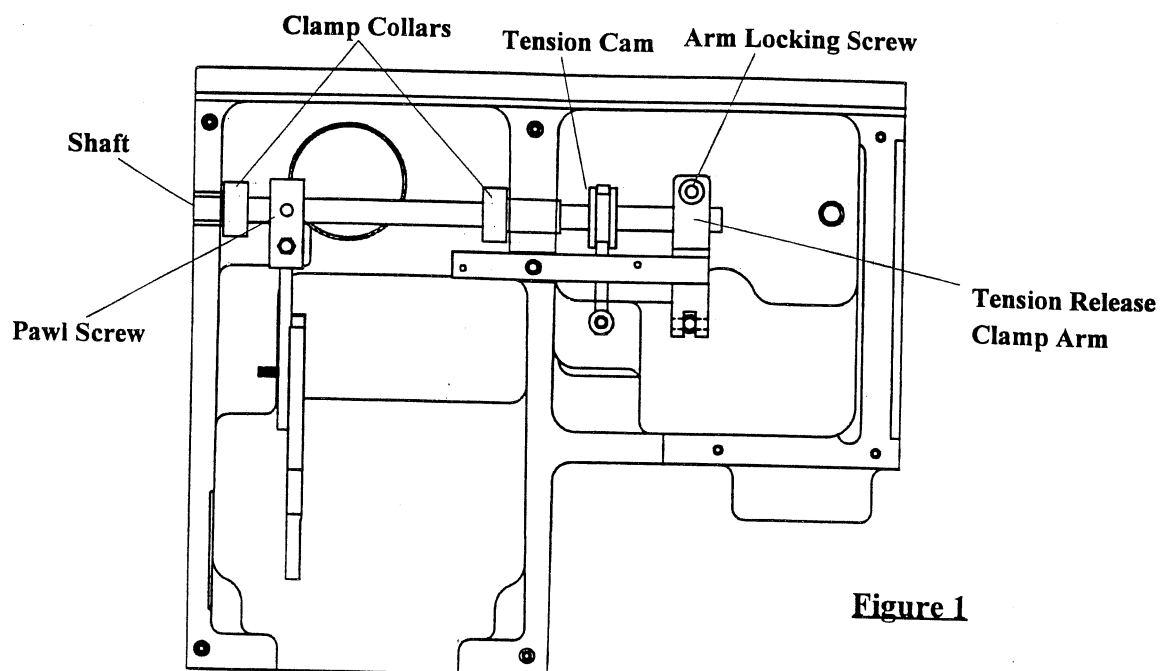

Figure 1
Check the thread draw-off actuator shaft, the shaft must rotate freely without end play and the outer end of the shaft is flush with the outside of the head casting (Figure 1).
1. *Loosen* the clamp collar set screws and the arm locking screw, *adjust* for proper setting, *tighten* the set screws and *push* the arm against the stop screw and tighten the arm locking screw (Figure 1).
1. *Loosen* the pawl screw. *Move* the pawl along the shaft to center the actuator in the slot (Figures 1 and 2).
2. *Tighten* the locking screw (Figure 1).